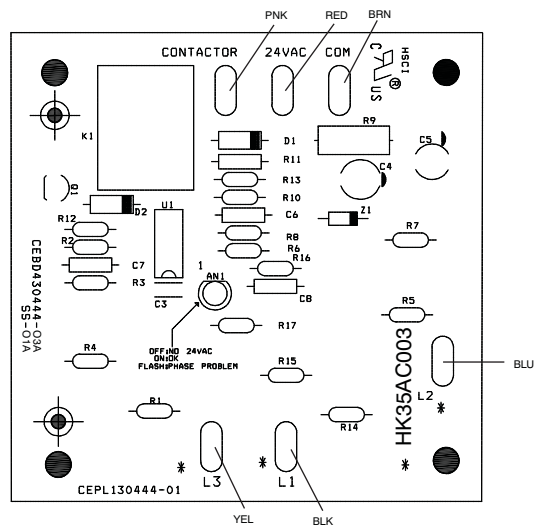

Fig. 4 - Phase Monitor Module Detail (208/230V and 460V)
4. a. **For 208/230-460V** - Route the wiring harness along the top of the control box connecting the pink wire to the “CONTACTOR” spade connector, the red wire to the “24VAC” spade, and the brown wire to the “COM” spade of the phase monitor module. (See Fig. 4)